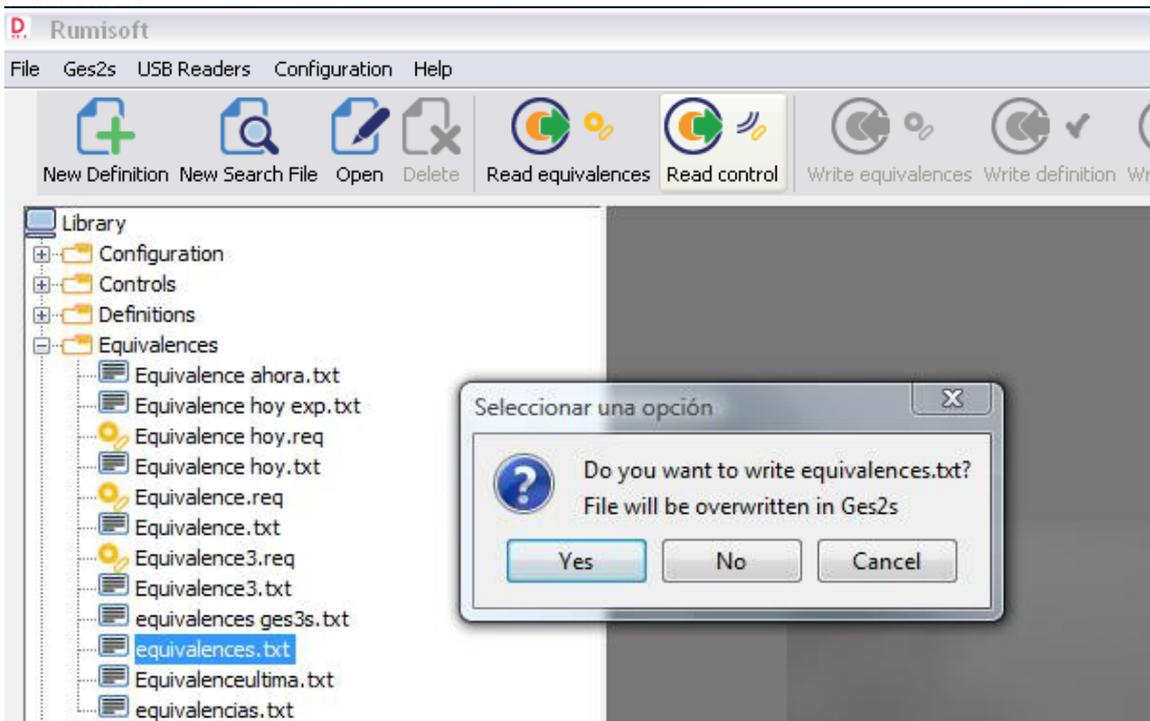

Figure 11
**Write equivalences:** uploads via *Serial Com Port* the selected text equivalence file in the tree to the GES2S. Software warns the user that reader equivalences will be overwritten (Figure 11).